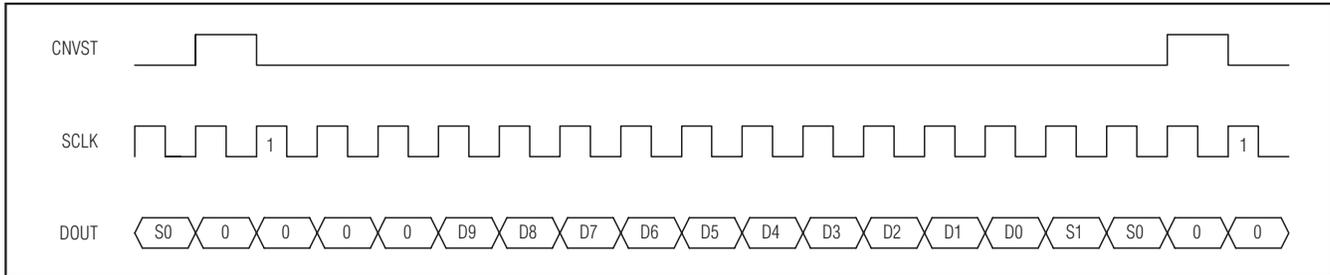

Figure 17. DSP Interface—Continuous Conversion
The MAX1077/MAX1079 can also be connected to the TMS320C54\_ by using the data transmit (DX) pin to drive CNVST and the CLKX generated internally to drive SCLK. A pullup resistor is required on the CNVST signal to keep it high when DX goes high impedance and 0001hex should be written to the DXR continuously for continuous conversions. The power-down modes can be entered by writing 00FFhex to the DXR (see Figures 17 and 18).
transmit-data register more than once. For single conversions, idle CNVST high and pulse it low for the entire conversion. The ADSP21\_ \_ \_ STCTL and SRCTL registers should be configured for late framing (LAFR = 1) and for an active-low frame (LTFS = 1, LRFS = 1) signal. This is also the best way to enter the power-down modes by setting the word length to 8 bits (SLEN = 1001). Connect the  $V_L$  pin to the ADSP21\_ \_ \_ supply voltage when the MAX1077/MAX1079 are operating with a supply voltage higher than the DSP supply voltage (see Figures 17 and 18).